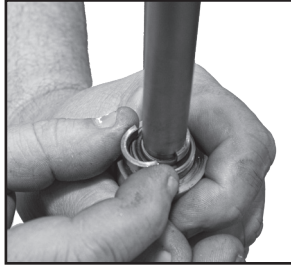

FIGURE 12
- FIGURE 12 - Grasp the gas bonnet firmly and apply downward pressure towards the receiver until the C-clips are exposed and can be removed by hand.